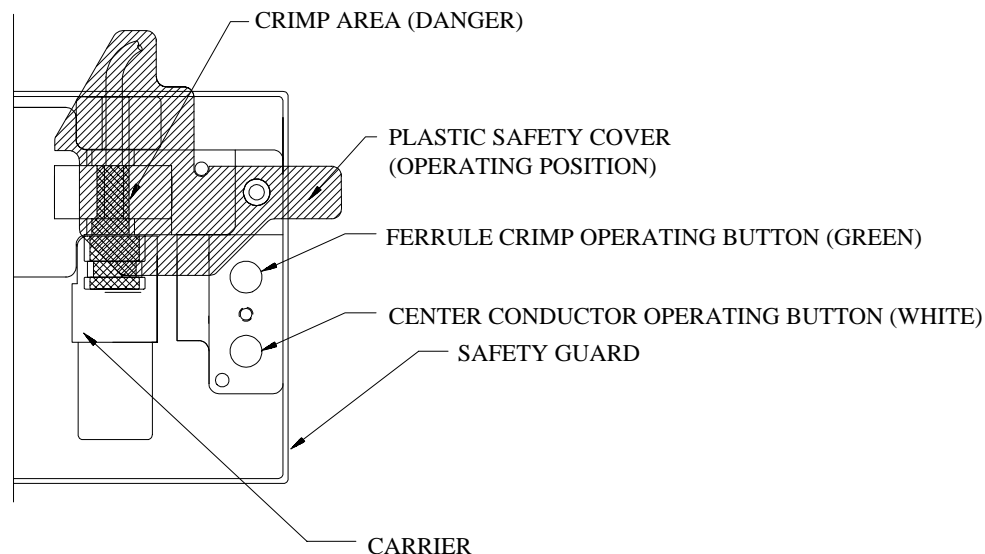

FIGURE 3
1. Rotate the plastic safety cover (**Figure 3**) counterclockwise to the stop, exposing the crimp area. Load the preassembled connector with the main body of the connector in the carrier (**Figure 1**), the center pin to the left and the ferrule to the right in the ferrule crimp area (**Figure 1**).
2. Rotate the safety cover clockwise to the cover stop (**Figure 3**), covering the crimp areas and exposing the two operating buttons (**Figure 3**). Hold the coax cable horizontal and push inward, toward the connector, keeping fingers well clear of the crimp area.